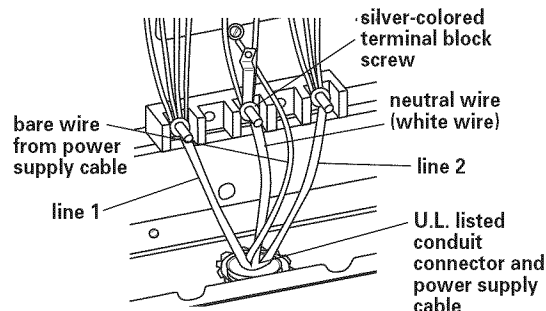

Figure 8
9. Connect the bare ground wire from power supply cable to the range using the ground-link screw. **The ground wire must be attached first and must not contact any other terminal.** See Figure 8.
10. Connect the neutral wire (white wire) to the center, silver-colored terminal screw on the terminal block using the brass terminal nuts that are attached to the inside of the terminal block cover. See Figure 8.
11. Connect the other two wires to the outer terminals on the terminal block. See Figure 8.